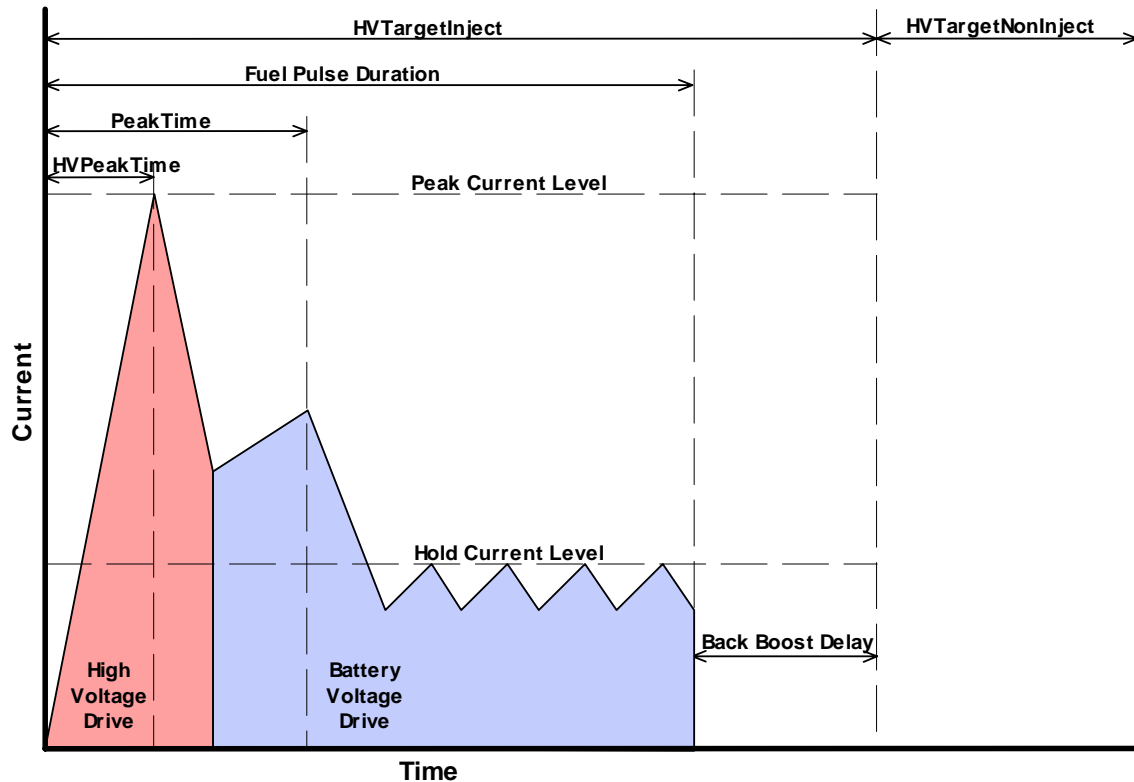

Figure 4. Injector solenoid current profile with labeled control parameters.
Step 3: Make calibration assignments. There are seven calibration values with which we need to be concerned. Each one will be described below in reference to the current profile shown in figure 4. The parameters contained within the UserCalParams cluster are parameters which are communicated once to the module upon setting the CalibrateNow boolean. The UserCalParams cluster contains six parameters which are discussed below. The PeakTime (msec) parameter, found on the Injection Control tab, is continuously communicated to the module.